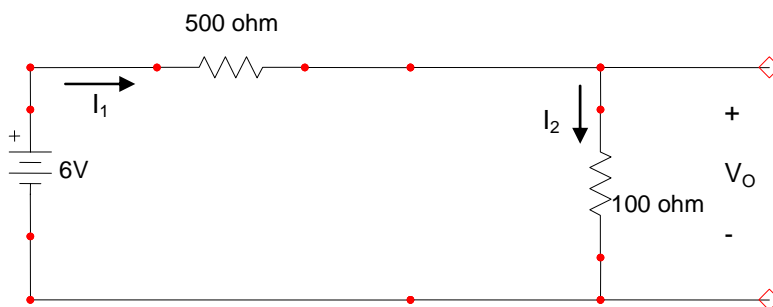

Figure 6
- With $I_D = 0$, the diode plays no part in the operation of the circuit, so it can be removed, as shown in fig.6.